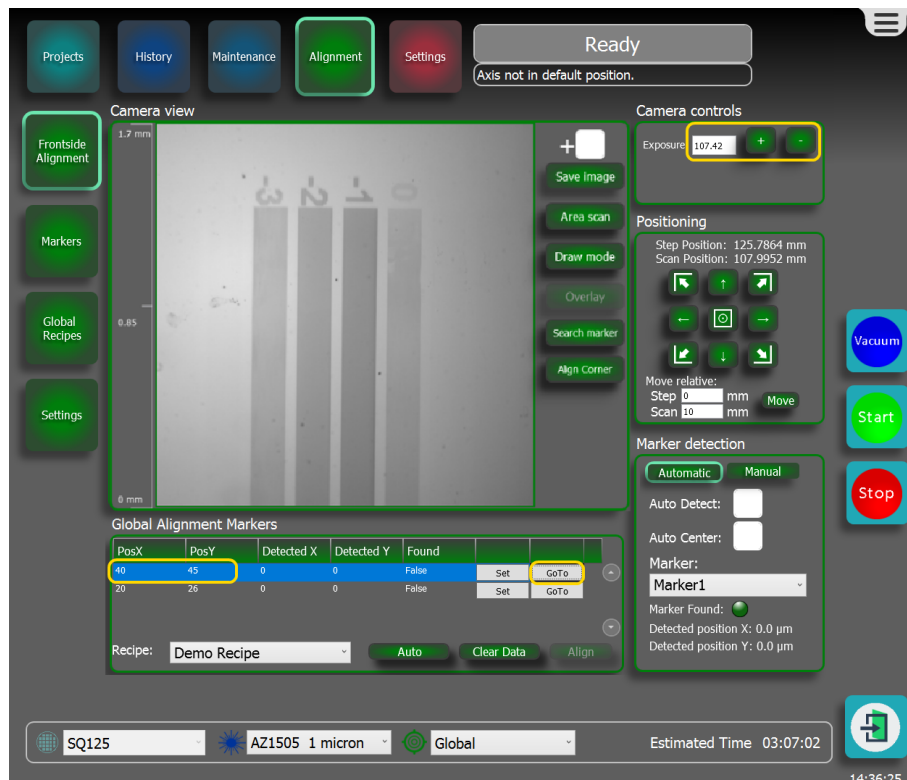

Figure 3-64 Going towards marker position
5. Press **GoTo**, see **Figure 3-64 below.**